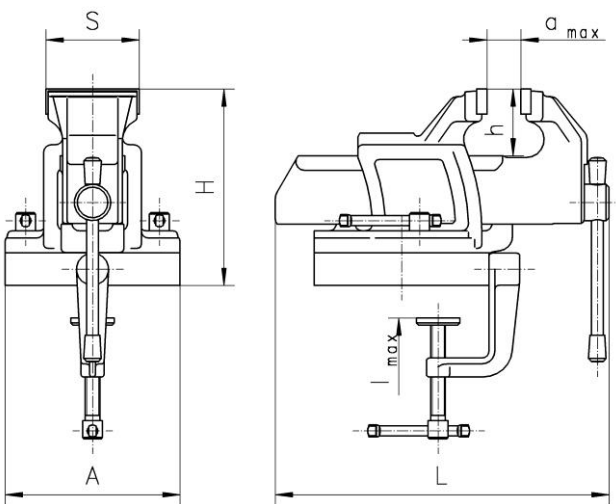

Fig.3
- c / portable rotary vice type 1256 (fig. 3, table III) with rectangle guideway,